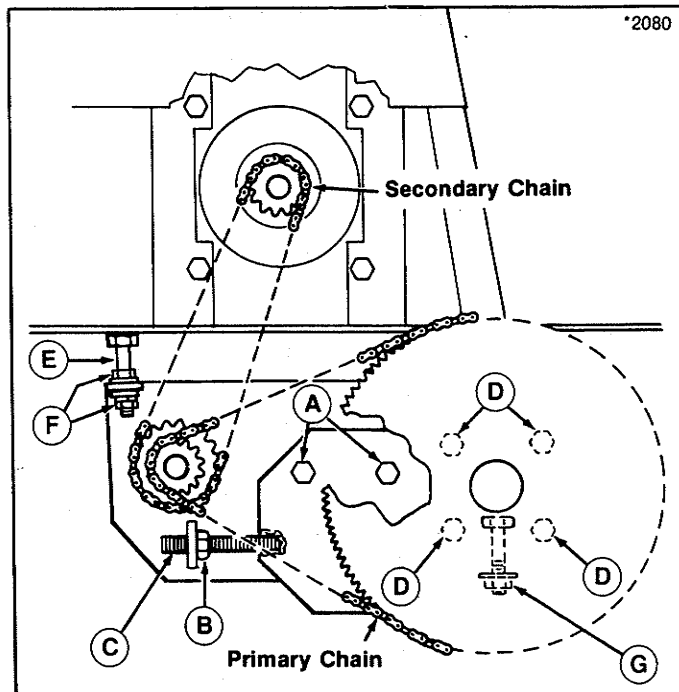

Figure 28.
2. Loosen two nuts (A, figure 28) securing jackshaft plate to axle plate.
2. Loosen the four 7/16" bolts (D, figure 28) holding the axle plate assembly to the frame. Bolts are also shown as A, figure 27.
3. Turn the top and bottom nuts (F) on tension capscrew (E) to adjust tension on top chain. So that axle plate remains parallel to the frame, turn adjusting nut (G) equal number of turns if tension capscrew (E) is adjusted. Tension capscrew must be tight against the frame to hold the adjusted position.
4. Retighten four bolts (D) and torque to 50 ft. lbs.
5. Tighten nuts (F) after chain tension is correct.